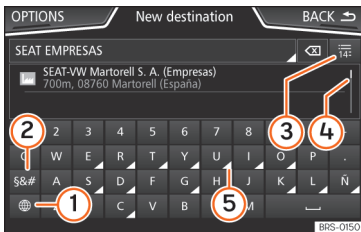

Fig. 194 Input window with on-screen keypad.
Suggestions for matching destinations appear depending on the characters entered in the input line » Fig. 194 (4). In the case of compound names, it is necessary to enter a space.